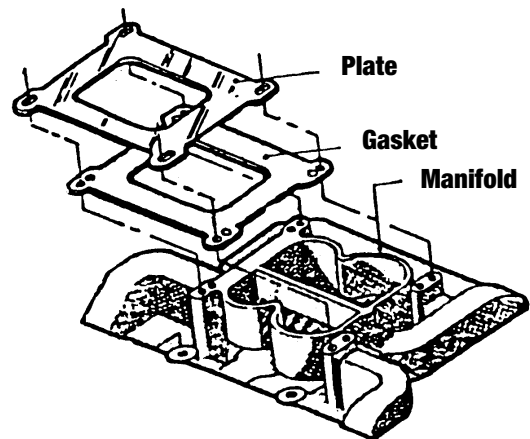

Figure 2 - Square-Bore Carburetor Adapter Plate
- **CARBURETOR PLATES AND GASKETS:** For square-bore carburetor installations on intake manifolds #2176 and 3776, you must install the supplied carburetor plate and gasket to seal the carburetor base (See **Figure 2**).